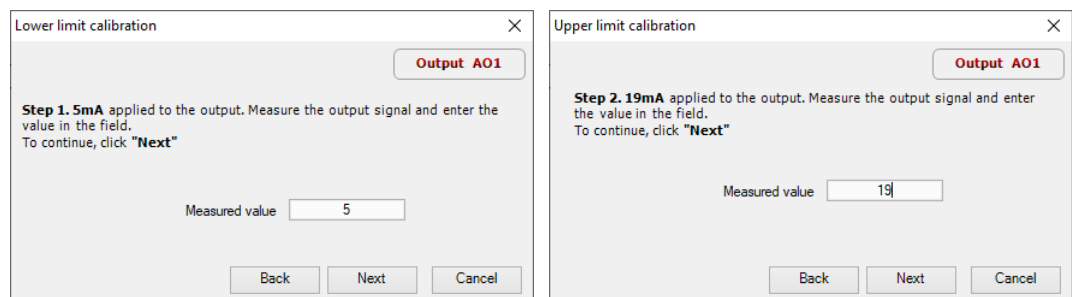

Fig. E.5
9. Calculate the output current from the measured output voltage and the set resistance; enter the result in the input field (Fig. E.5).
7. Enter the measured output voltage in the input field (Fig. E.5).